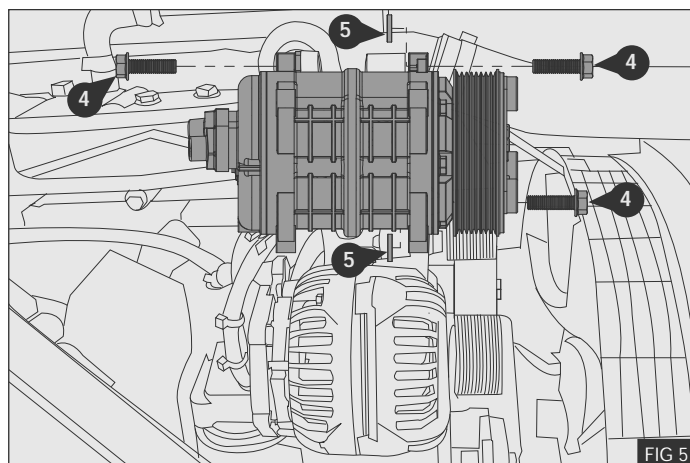

FIG 5
1. Mount the compressor to the bracket using three M10 x 35 set screws ④ and compressor spacers ⑤ - Fig 5.
2. Torque the three M10 x 35 set screws ④ to 58Nm / 42 lb.ft - Fig 5.